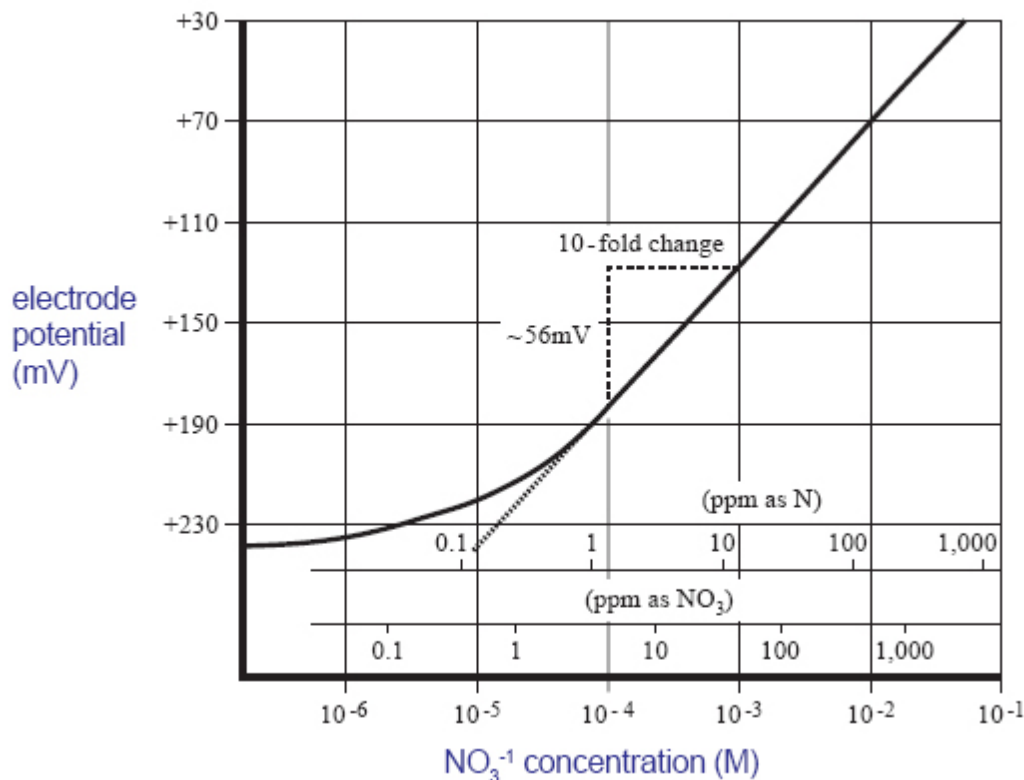

Figure 1: Electrode Potential vs.  $\text{NO}_3^-$  Concentration
5. Using the semi-logarithmic graph paper, plot the mV reading (linear axis) against the concentration (log axis). Extrapolate the calibration curve down to about 1.0X10-5M. A typical calibration curve can be found in Figure 1.
- On semi-logarithmic graph paper, plot the millivolt reading (linear axis) against the concentration (log axis) as in Fig 1.
The lower limit of detection is influenced by the slight water solubility of the ion exchanger used in the sensing portion of the electrode. Refer to Figure 1 for a comparison of the theoretical response to the actual response at low levels of nitrate. Nitrate measurements below  $10^{-5}$ M  $\text{NO}_3^{-1}$  (0.6 ppm as  $\text{NO}_3^{-1}$ ) should employ low level procedures.